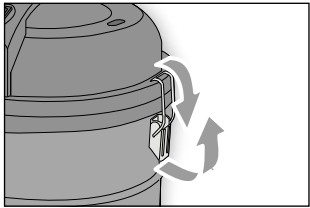
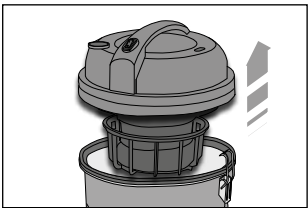

Fig. 7
Fig. 8
- Operate the two lateral levers (G) (FIG. 7) and remove the cover (E) (FIG. 8).